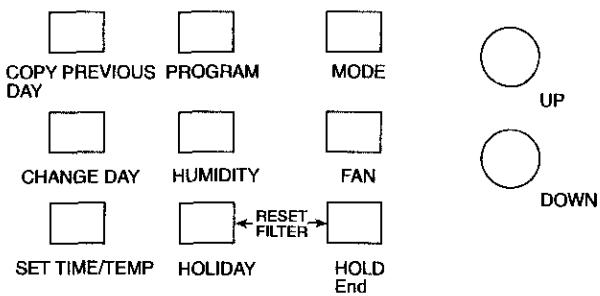

Fig. 31 — Light Commercial Thermidistat™ Keypad
**Step 4 — Set Light Commercial Thermidistat Configuration (Fig. 31 and 32)** — Configuration options, like DIP switch settings, are intended to be selected at installation and normally are not modified by the owner. These options must be made as part of the installation. A special procedure allows entry into the Configuration mode. While in configuration mode, up to 10 selections can be made. A description of each selection and how to use the Configuration mode are as follows:
- Option 4 — Fan (G) ON with W selection